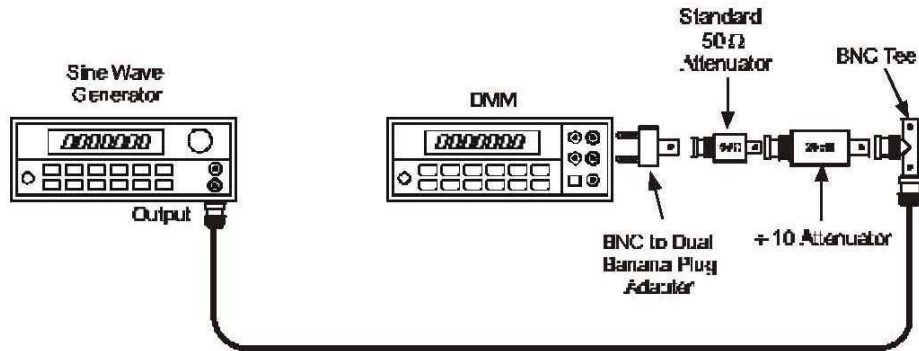

Figure 11, X10 Gain Accuracy Setup.
- i. Connect the 50 Ω termination end of the termination/attenuator/ BNC Tee combination on the sine wave generator cable to the Banana Plug adapter on the DMM. See Figure 11.